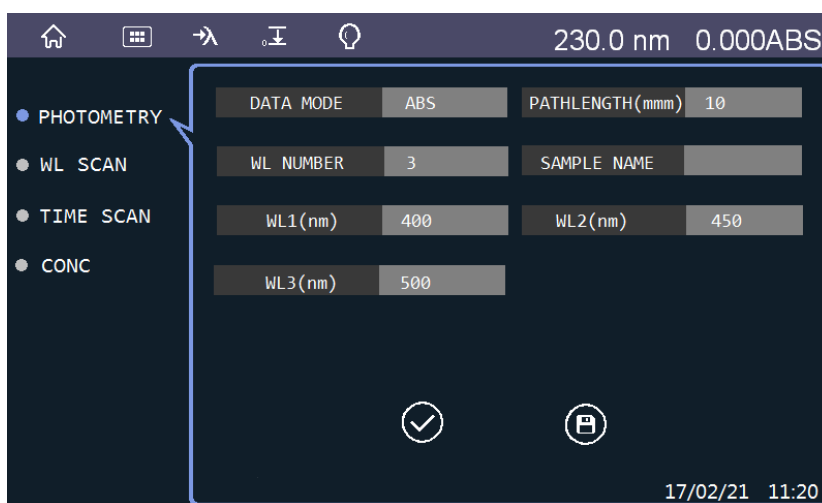

Figure 3-5 Setting interface of fixed wavelength measurement
1) Click “Setting” in the photometry testing interface to get into parameter setting, as shown in Figure 3-5.